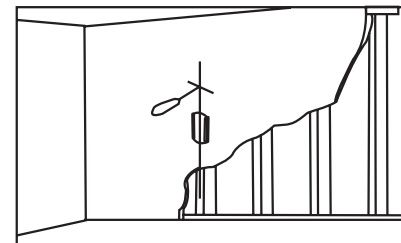
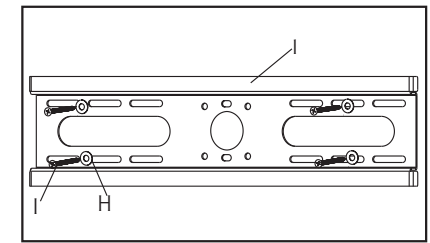

Fig 2b
Fig 2c
Using a awl or nail to make where the nails are located, as shown as fig.2b. Pre-drill these holes with a 3mm drill bit to at least 50mm in deep hole. Please make sure these holes are level and located at center. Use wall mount as a template to mark the location of other three holes and drill the same holes. Fix the wall mount to the wall with 4 long bolts(I) and washers(H), as shown as fig.2C.